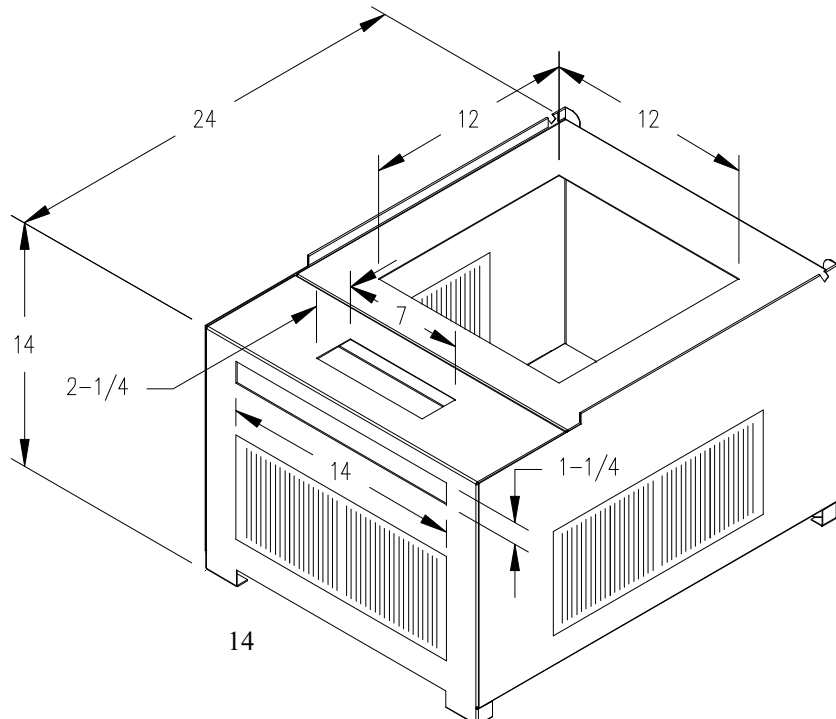

Figure 1C.
3. Model CMA3 furnace may be installed on a combustibile floor when utilizing either the No. 70 counterflow floor base or CE111S coil cabinet for below the floor duct systems, or the cottage base for floor level air distribution. See Figure 1A for description of Combustible Floor Base and Figure 1C for Cottage Base.
The 01COT BASE cottage base (Figure 1C) is required for a freestanding cottage base installation. The cottage base allows the two sides and rear to have an 8" x 12" register installed. **IMPORTANT: All joints and seams of supply ducts must be sealed with a sealing method suitable to the application conditions and temperatures (I.E. High temperature silicone and/or aluminum tape).** Refer to assembly and installation instructions included with cottage base for additional information.